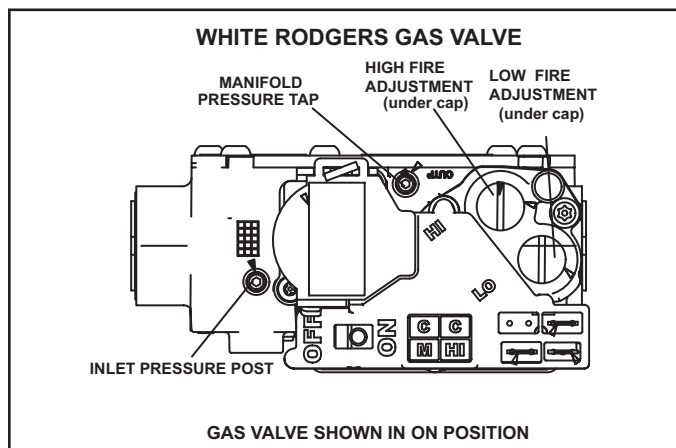

FIGURE 63
#### Gas Valve Operation (FIGURE 63)
- 6 - Move gas valve switch to OFF. See FIGURE 63.
- 8 - Move gas valve switch to ON. See FIGURE 63.
An inlet pressure post located on the gas valve provides access to the supply pressure. See FIGURE 63. Back out the 3/32 hex screw one turn, connect a piece of 5/16 tubing and connect to a manometer to measure supply pressure. See TABLE 24 for supply line pressure.
A manifold pressure post located on the gas valve provides access to the manifold pressure. See FIGURE 63. Back out the 3/32 hex screw one turn, connect a piece of 5/16 tubing and connect to a manometer to measure manifold pressure.
- 5 - If necessary, make adjustments. FIGURE 63 shows location of high fire and low fire adjustment screws.